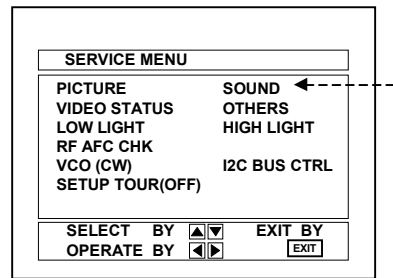

Fig.1 [ AV-14F33/PH Only ]
- 2) The SERVICE MENU screen of Fig.1 is displayed.
Verify what to set in the SERVICE MENU, and set whatever is necessary. (Fig.1) Refer to the SERVICE ADJUSTMENT for setting.